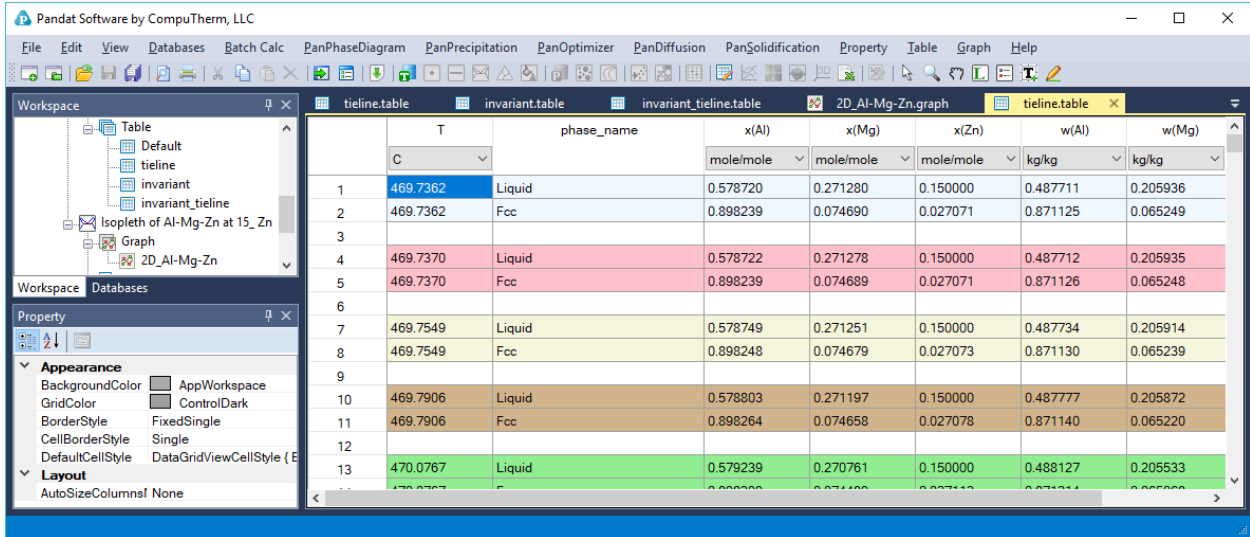

Figure 1.6.3: The tieline table showing the detailed information of calculated tieline
- Tie-lines cannot be viewed on an isopleth since they are usually not on the same isoplethal plane except for a pseudo-binary. The tieline information is listed in tieline Table as shown in Figure 1.6.3.